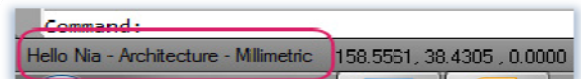

Figure 4
**Hello "USER" "Discipline" "Drawing Units"** (Figure 4)